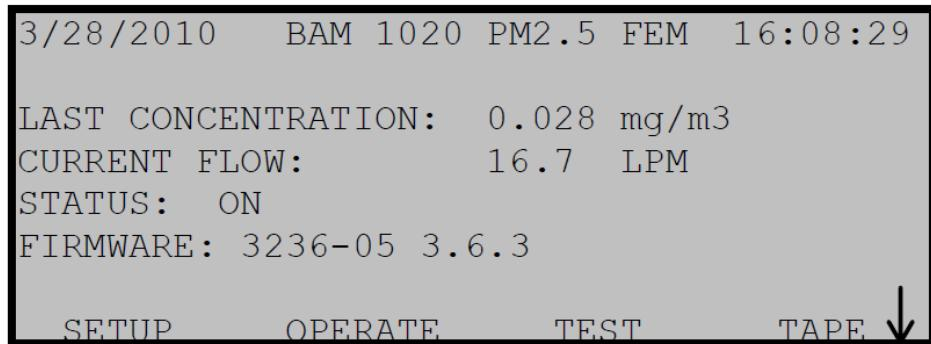

Figure 4: BAM 1020 home screen
2. Read the “Status” line when the self-test is complete. If it displays SELF TEST PASSED, select EXIT to return to the home screen (Figure 4 2).
3. If the status displays ERROR OCCURRED, look for an error in the individual test parameters. Resolve the error and repeat the self-test until it passes, then select EXIT to return to the home screen (Figure 4 2).
2. Measure the actual ambient temperature inside the radiation shield using a certified, NIST-traceable thermometer. Use the soft arrow keys to program it into the STD column of the ambient temperature (AT) line.
3. Select NEXT to navigate to the barometric pressure (BP) line. Measure the actual BP at the BAM inlet using a certified BP standard and program it into the STD column of the BP line.
7. Select EXIT to return to the home screen (Figure 4).